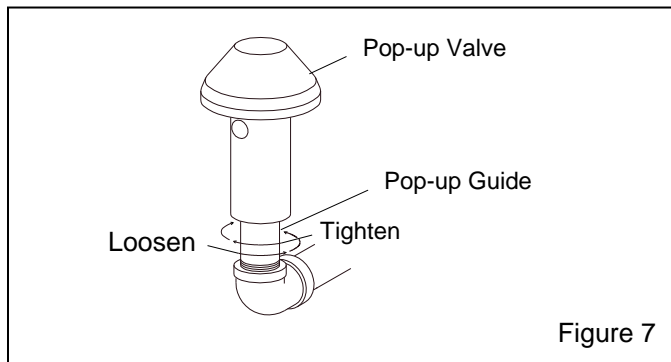

Figure 7
**5.8. Replacing the Pop-Up Valve, Figure 7**